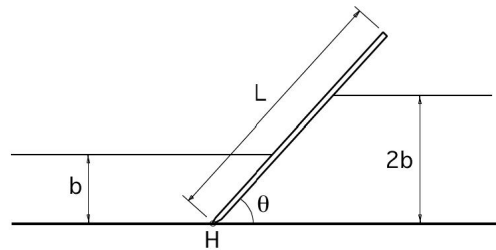

Figure P2.49
2.49 A gate of width w , length L , mass M , and uniform thickness, separates two fluids of equal density ρ , with depths b and $2b$, as shown in Figure P2.49. The gate is pivoted without friction at the hinge H , and it is in equilibrium when it is inclined at an angle θ to the horizontal. Find the mass M in terms of ρ , b , w , θ and L . Show your coordinate system, and all your working.